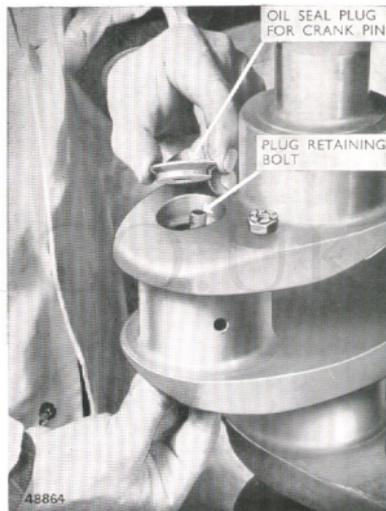

Fig. 50. Removal of oil seal plug.
2. Remove the oil seal plugs (Fig. 50) and flush out the oil passages and oil holes. Replace the seal plugs and bolts. **Do not** use sealing compound on these plugs. Ensure that the nuts are split-pinned and smear the main bearing journals with clean engine oil.